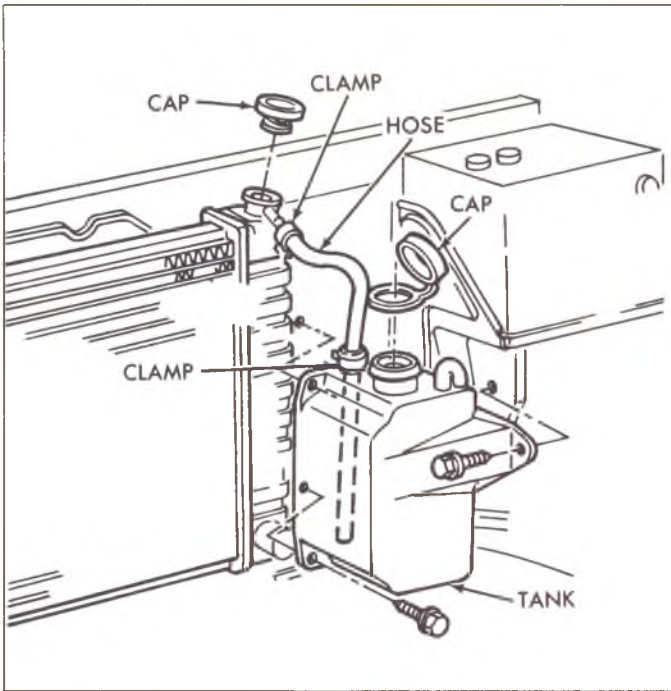

Fig. 5—Coolant Recovery Tank—CK Series
4. Disconnect coolant recovery system hose (figs. 5 through 7).
Refer to Figure 5 for removal and installation of coolant recovery system on CK Series.